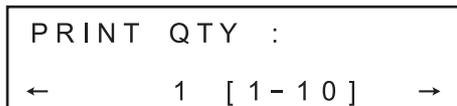

Figure 4.5
The monitor and LCD panel display the current setup for a few seconds (see Figure 4.5).
- 2 While the monitor or LCD panel is as shown in Figure 4.5, press the “PRINT QTY” button, “◀” or “▶” until the desired print quantity is displayed. Each press of the “PRINT QTY” button or “▶” increments the print quantity by one as “1” “2” “3” ... “9” “10” “1” The print quantity after “10” is “1.” Each press of “◀” decrements the print quantity by one as “1” “10” “9” ... “2” “1” “10” The print quantity after “1” is “10.”